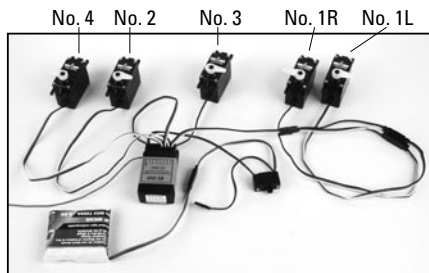

fig. 1
- ▼ 1. Connect your radio equipment as in fig. 1.
- ▼ 3. Fit the servo output arms to the servos as illustrated in fig. 1.
- ▼ 3. Fit switch harness and switch into the pre-cut hole in the fuselage (fig. 1).